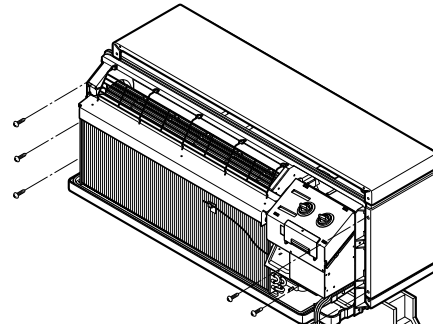

Figure 26
3. Slide the unit into the wall sleeve and secure with 6 screws through the unit flange holes. (See Figure 26)